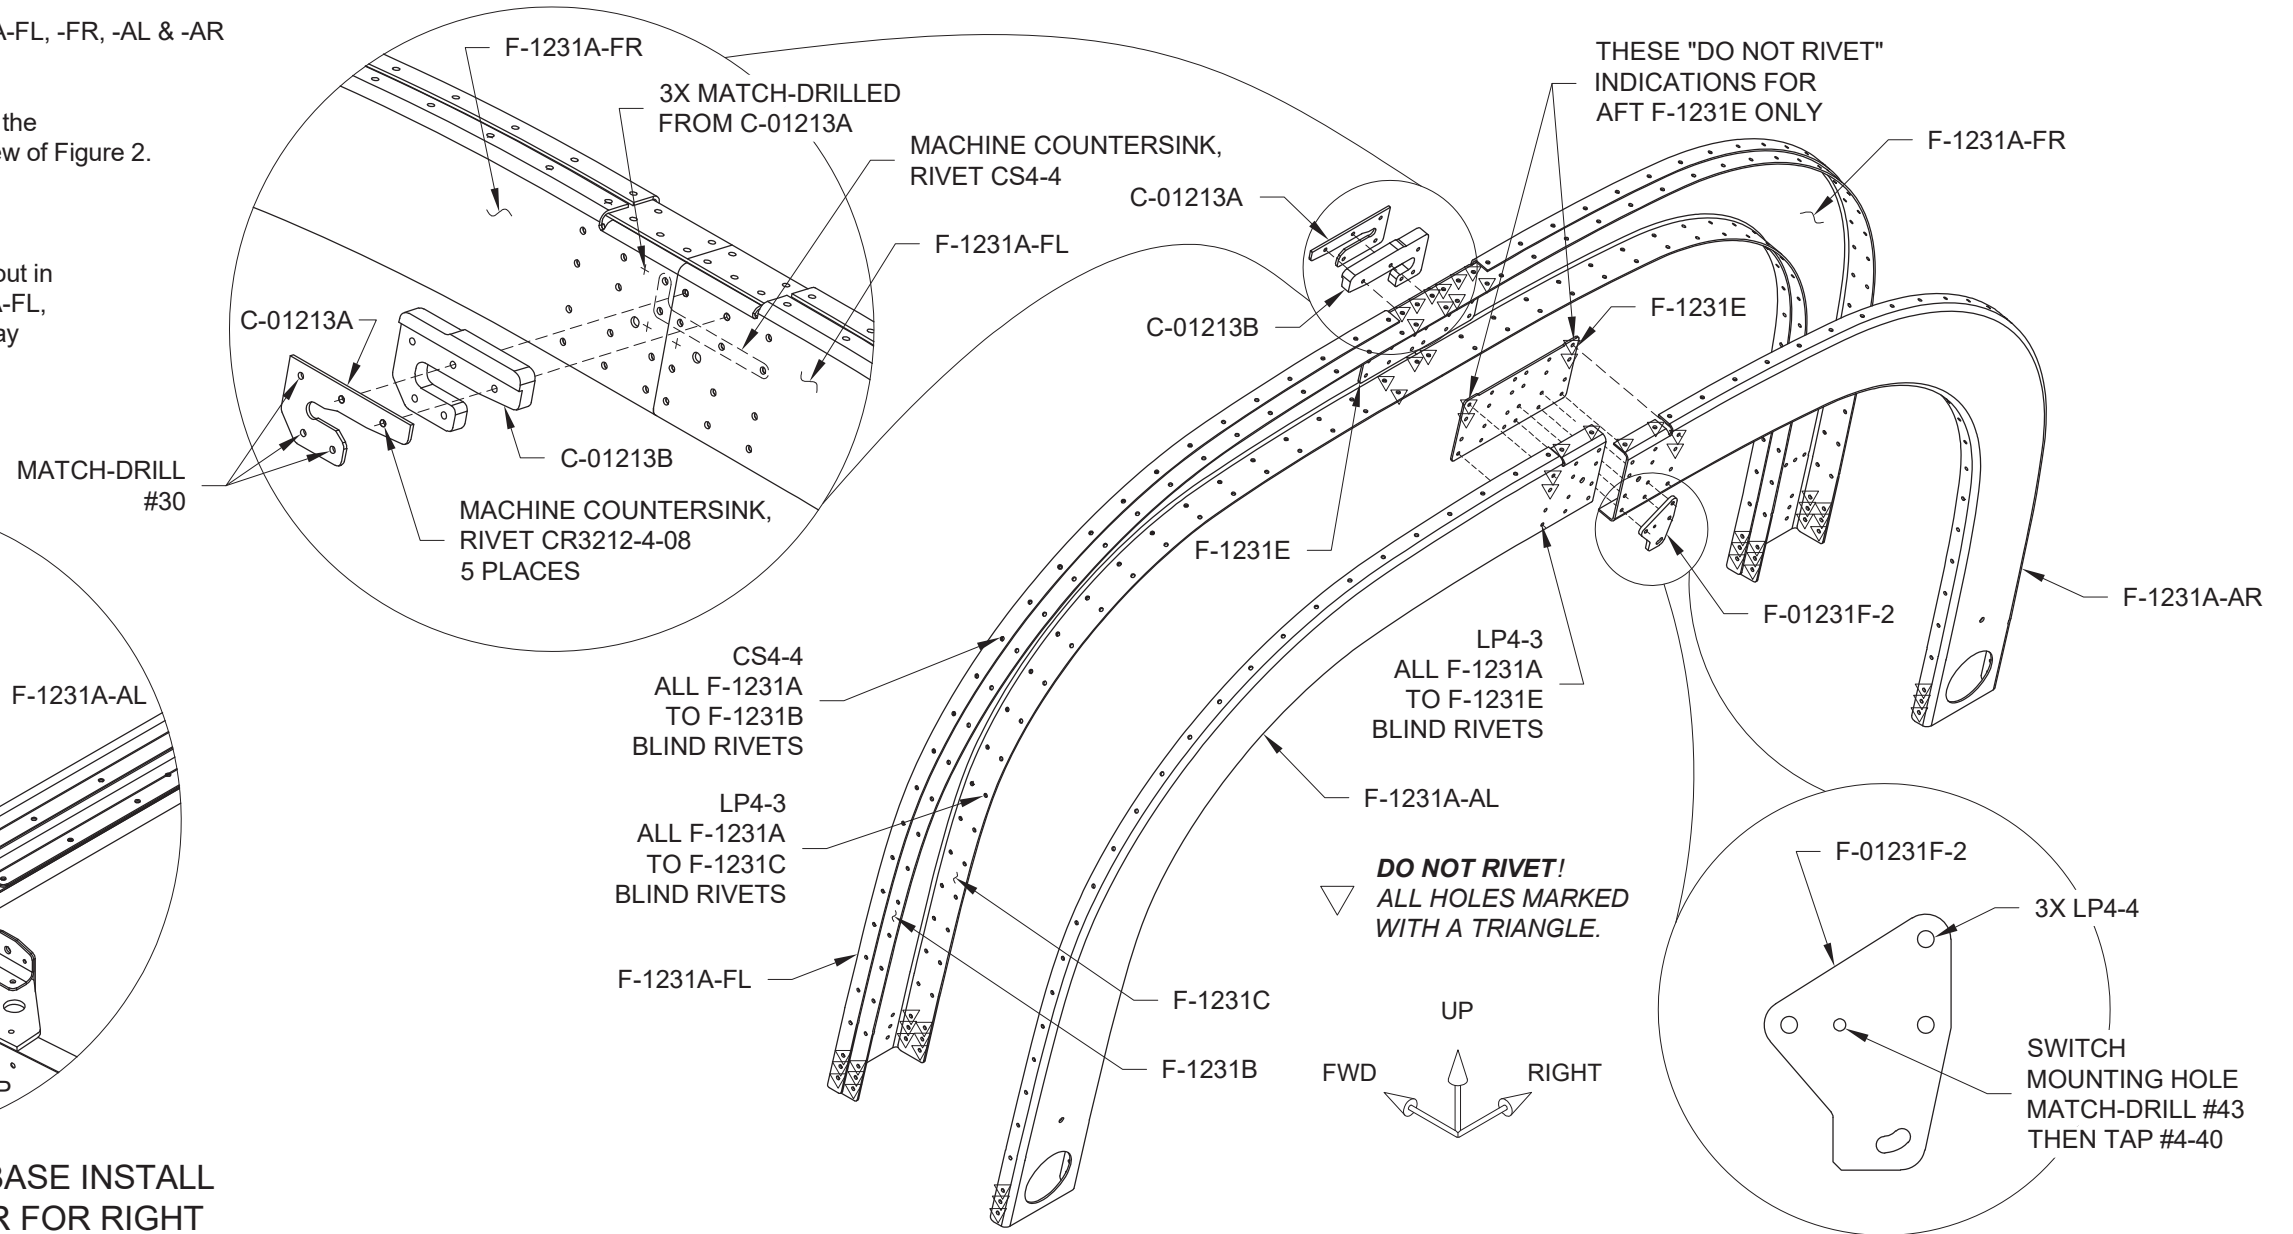

FIGURE 2: ROLL BAR ASSEMBLY
CAUTION: Do not rivet the locations marked with a triangle in Figure 2 until later in the assembly process!
Step 15: Rivet the F-1231E's and F-01231F-2 to the F-1231A-FL, -FR, -AL, & -AR per the call-outs in Figure 2, then rivet in place the C-01213A and C-01213B.